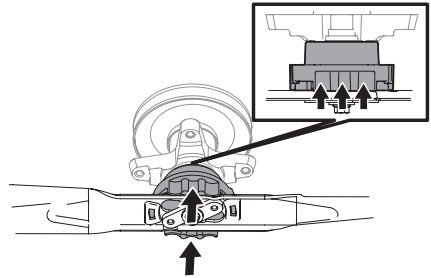

Figure 44
- Push upward on the blade collar and hold it. See Figure 44.
4. Push the blade upward against the blade adapter until the collar above rises. See Figure 44.